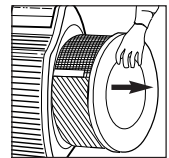

FIG. 2
3. Remove the HEPA filter, (CPZ™ filter on 17250 and 17450 model series) and activated carbon pre-filter from the base assembly (Fig. 2).